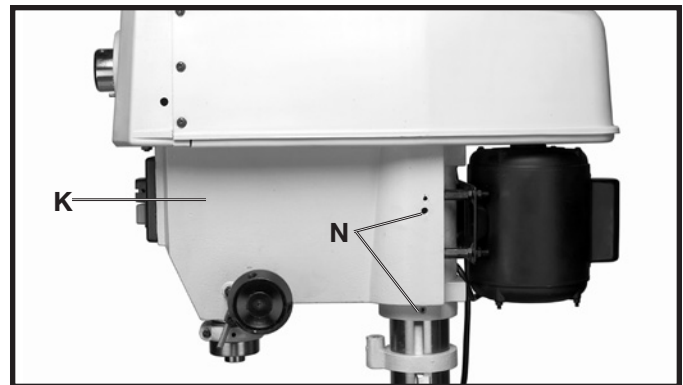
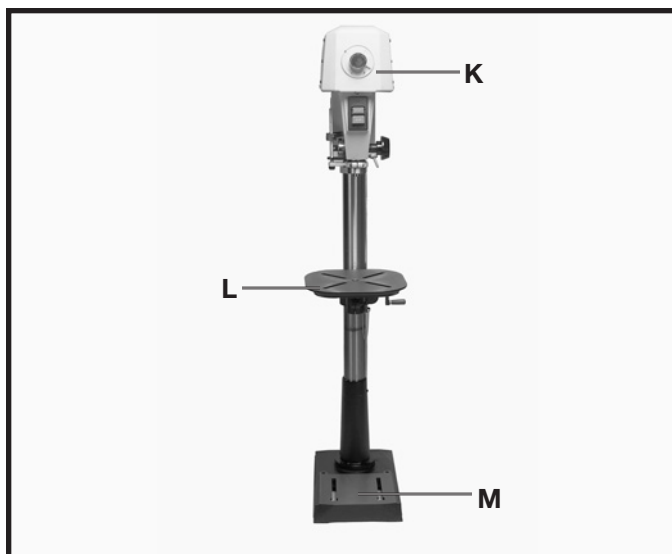

Fig. 11
Fig. 12
11. Place the drill press head (K) Fig. 11, onto the column as far as it will go. Align head (K) Fig. 12, with table (L) Fig. 12, and base (M) Fig. 12, and tighten the two head locking screws (N) Fig. 11 with the 5mm wrench supplied.